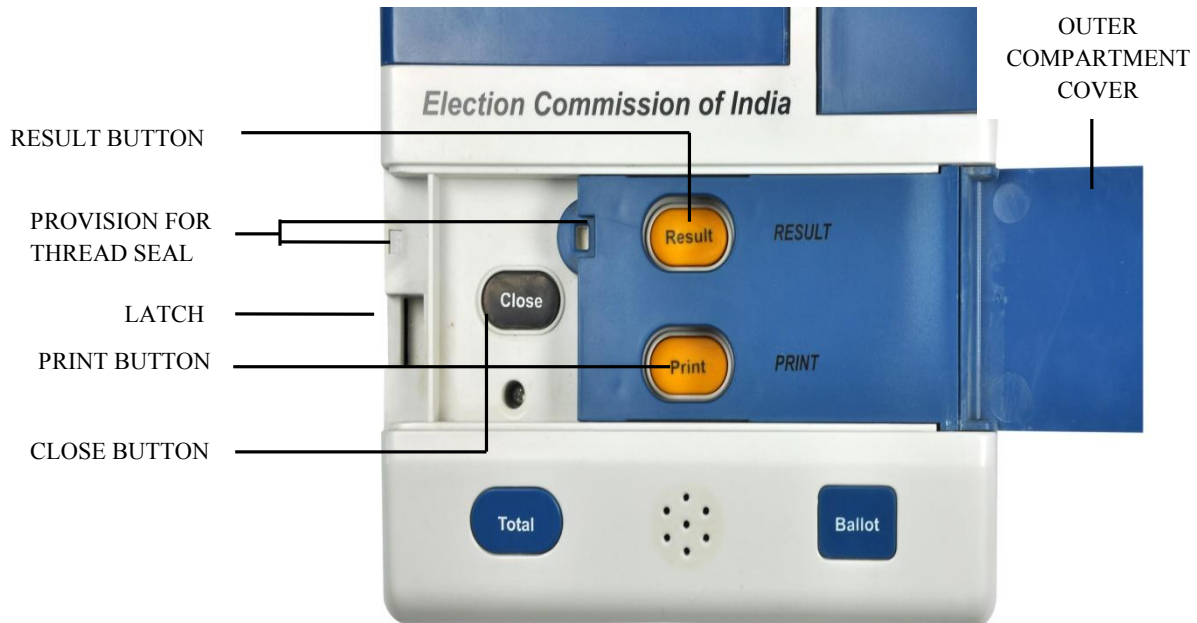

Fig.10 View of Outer compartment of Result Section
22. The cover of the result section has an elliptical aperture on the left hand side through which the 'Close' button is seen. The left portion of the result section houses a black 'Close' button. The right portion actually has an inner compartment with its own door (Fig.10).
### **Close Button (Fig. 10)**